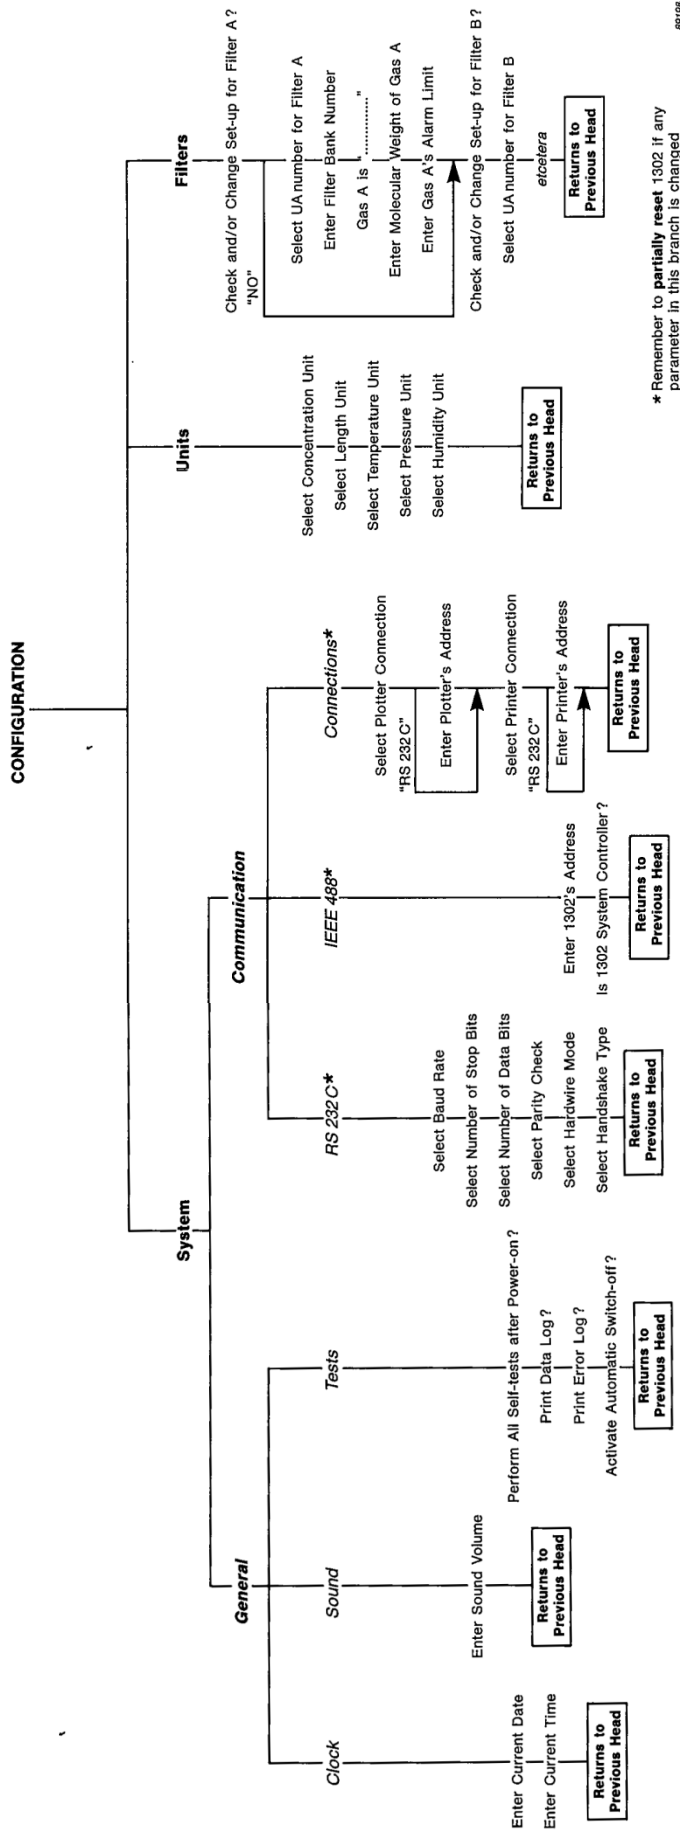

Figure 35. The Set-up "Tree" for Configuration branch. (7)
- The extended *Configuration* branch can be seen on Figure 35 and it is used to set-up the Monitor's parameters. The *Unit* and *Filter* parts are described in section 6.2.1.
Check the units, by clicking *Set-Up* on the front panel, *Configuration* branch and *Unit* part (*Set-Up* → *S3* → *S1*). Investigate the units following the diagram presented on Figure 35.
Check the information about filters, by clicking *Set-Up* on the front panel, *Configuration* branch and *Filters* part (*Set-Up* → *S3* → *S3*). Investigate the information for the filters following the diagram presented on Figure 35. If you are only recalibrating the Monitor for the same filter positions and banks, then the names of the gases will be probably correct. If you are calibrating a new gas or an existing gas in a new filter bank, then the name of the gas and the molecular weight need to be typed in. Before changing these information contact person responsible for the Monitor.